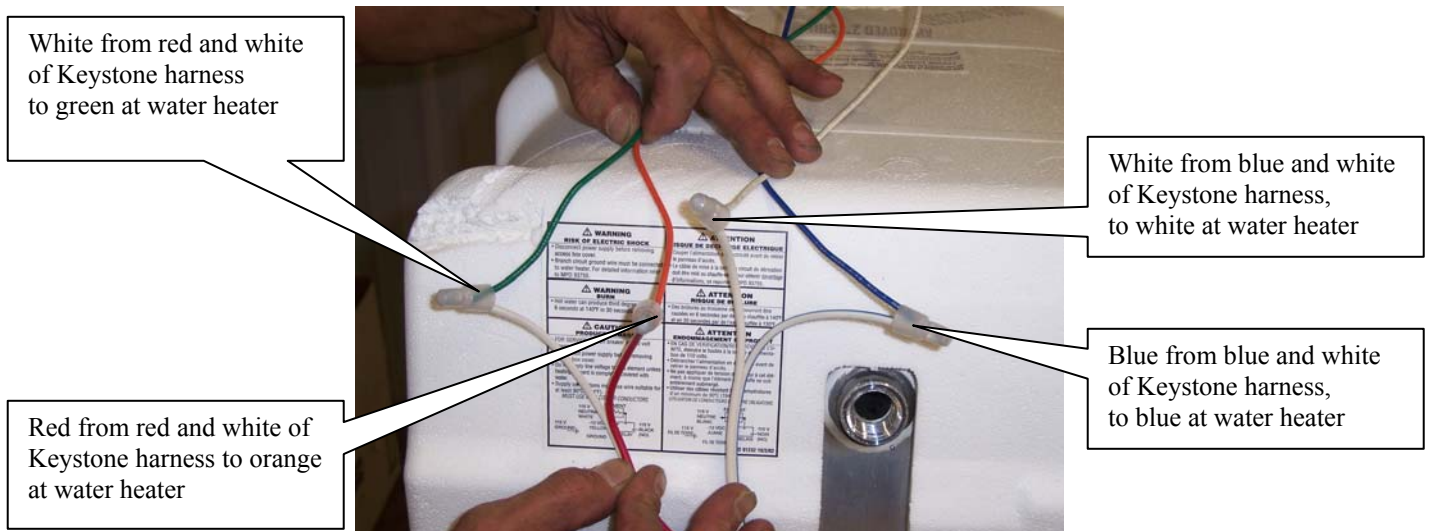

Fig. 5
- Step 8** Check to verify that the wires are connected to the water heater correctly per Fig. 5. Make corrections as necessary.